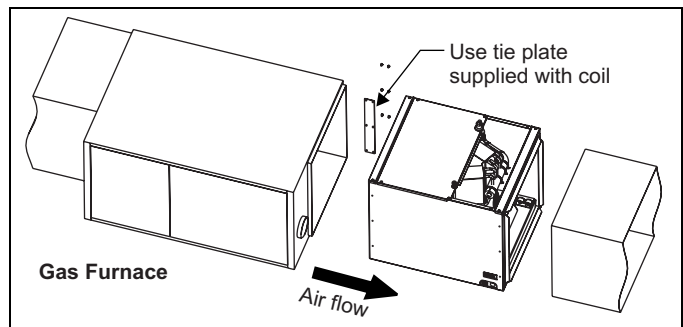

FIGURE 13: Horizontal Left or Right application (Right Shown)
These coils are supplied ready to be installed in a right hand position or a left hand position. When used in conjunction with a horizontal furnace (blow through) application, the coil should be oriented with the opening of the "A" coil closest to the furnace. See Figure 13.
**NOTE:** Each coil is shipped with an external tie plate that should be used to secure the coil to the furnace. It should be installed on the back side of the coil using the dimpled pilot holes. See Figure 13.